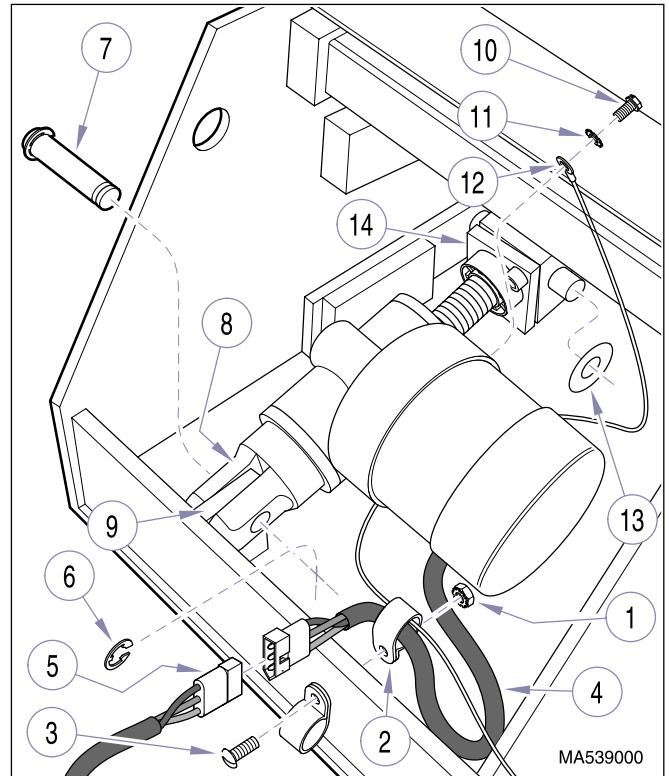

Figure 4-7. Base Motor Removal / Installation
- c. Use a jack or manually raise chair top until trunnion arms (B) come out of trunnion slots (C). Allow chair top to lower back on supports.
(11) Remove locknut (1, Figure 4-7) and cable clamp (2) from screw (3). Then, remove cable clamp from base motor wire harness (4).
(12) Disconnect base motor wire harness (4) from wire harness (5).
(13) Remove two retaining rings (6) and pin (7) securing clevis of base motor (8) to mounting bracket (9).
(14) Remove screw (10), lockwasher (11), and ground wire (12) from base motor (8).
(15) Remove two washers (13); one from each side of trunnion (14).
- (1) Install two washers (13, Figure 4-7); one on each side of trunnion (14).